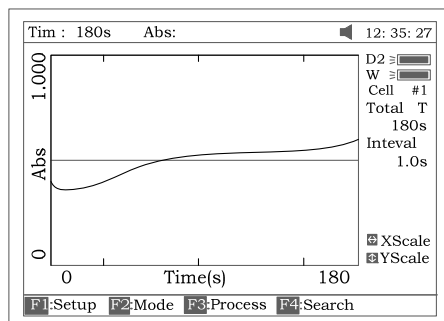

Fig 56
- Pull the sample cuvette into main light path, press **[START]** to scan the sample. After the delay time, the beep tone sounds 3 times and time-scan starts. At the end of the time-scan, the beeper also beeps 3 times (Fig 56).
Press the key **[SAVE]** to save curve. Note: Load/Save requires the first kinetics display page Fig 56. Press **ESC** if in Search to return to the required page.